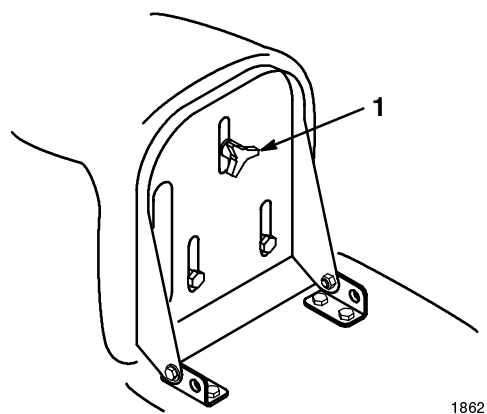

Figure 3
1. Raise the seat and loosen the adjustment knob (Fig. 3).